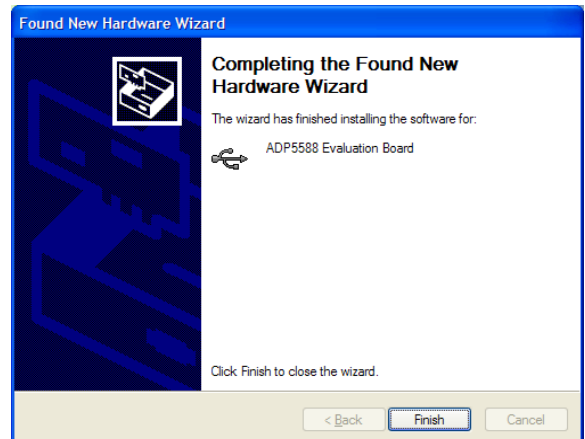

Figure 22. USB Driver Installation Completion
- When the screen in Figure 22 appears, click **Finish** to complete the USB driver installation.